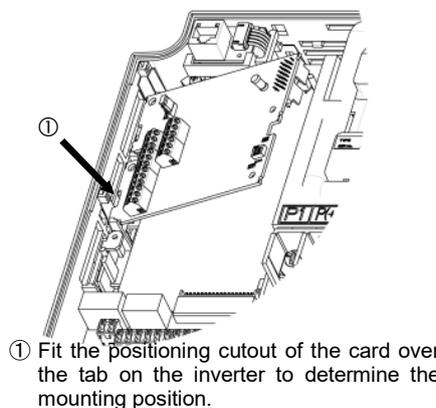
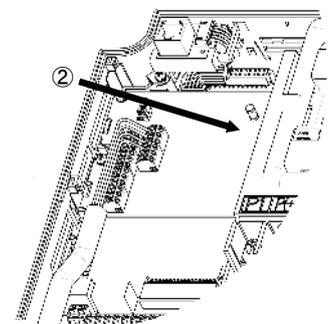

Figure 2.2 Mounting PG Interface Card
Figure 2.3 Mounting Completed
- (2) Insert connector CN1 on the back of the PG interface card (Figure 1.2) into the C-port (CN6) on the inverter's control PCB. Then secure the card with the four screws that come with the card. (Figure 2.3)
**Note** Check that the positioning cutout (Figure 1.1) is fitted on the tab (① in Figure 2.2) and connector CN1 is fully inserted (② in Figure 2.3). Figure 2.3 shows the PG interface card correctly mounted. Do not connect the interface card to the ports other than C-port. Doing so may damage the card.
- (3) Perform wiring to the PG interface card.
- (4) Put the front cover back into place.